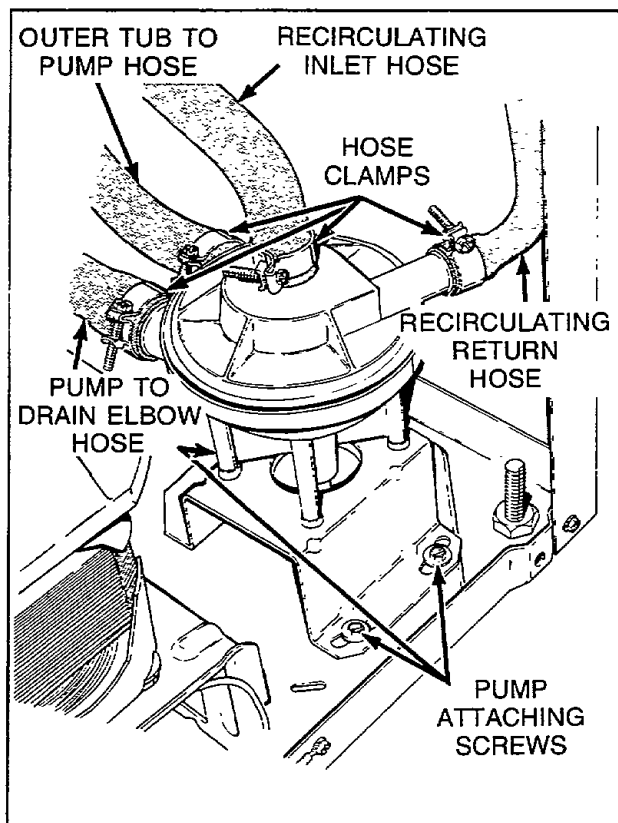

Figure 15
- Remove the two front mounting screws, *Figure 15*, and loosen the rear screw.
- Loosen hose clamps and remove all hoses from pump assembly, *Figure 15*.